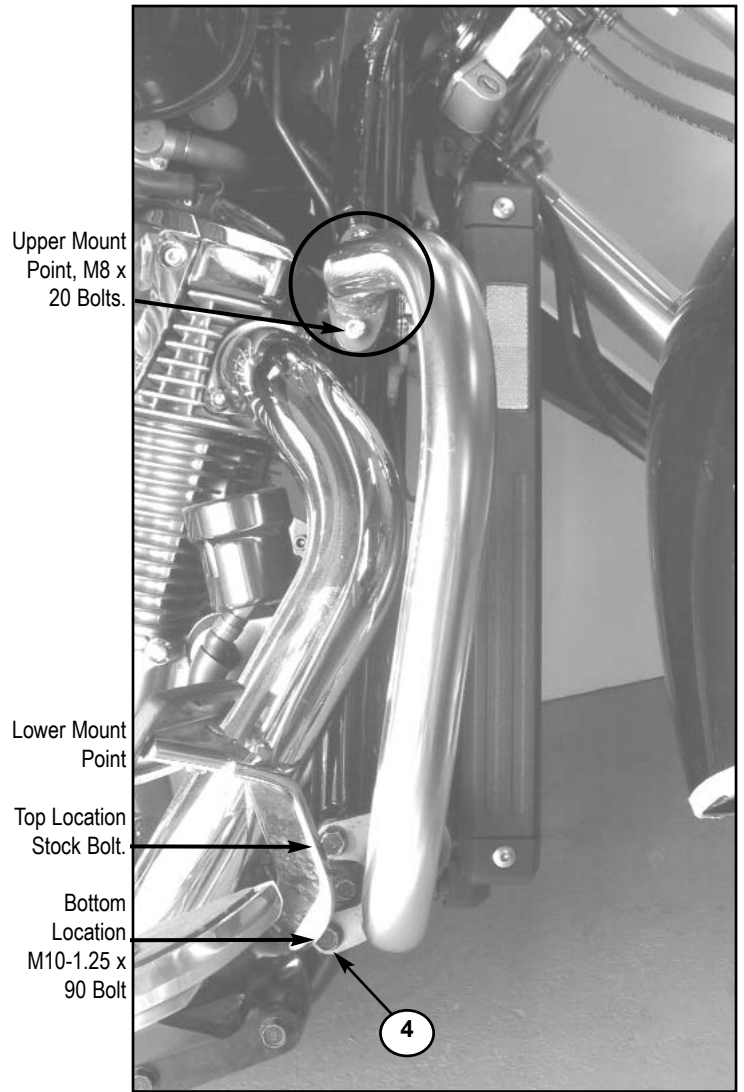

Figure 3
6. Install the Highway Bar to the lower frame mounting point using the stock bolt in the upper location (14mm Socket and Wrench) and a M10-1.25 x 90 Bolt in the lower location (8mm Hex Key.) Do not fully tighten at this time. **Figure 3.**
7. Align the holes at the upper mount point of the Highway Bar with the holes in the Frame Bracket. Install with supplied M8 x 20 Bolts (6mm Hex Key.) Adjust "U" Bolt Assembly as needed. Do not fully tighten M8 x 20 Bolts. **Figure 3.**